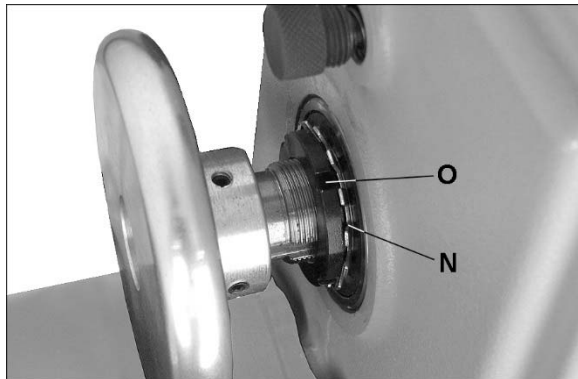

Figure 8-12: correcting spindle play
5. Loosen and remove bearing lock nut and tabbed lock washer (see O/N, Figure 8-12).
11. Install tabbed lock washer, and bearing lock nut (N/O, Figure 8-12). Check for any spindle play at this point (see sect. 8.13).
1. Use a screwdriver to carefully bend back any tabs on the tabbed lock washer (N, Figure 8-12) that interfere with the insets on the bearing lock nut (O, Figure 8-12).
2. Place the end of a flat head screwdriver down against one of the insets of the bearing lock nut (O, Figure 8-12).
3. Tap the handle of screwdriver with a mallet so that it turns the bearing lock nut (O, Figure 8-12) tighter in a clockwise direction. Rotate bearing lock nut only about 1/16" at a time.
5. After the bearing lock nut (O, Figure 8-12) has been properly adjusted, *carefully* bend back into place any tabs on the tabbed lock washer (N, Figure 8-12).